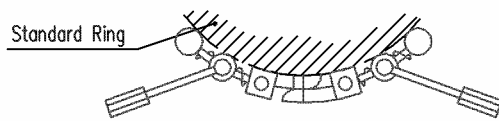

Fig. 2
1. 球带尺在使用前应先进行标定。将球带尺置于标准圈上，使各测量球均接触标准圈的两个垂直面，在手柄上施加 5kg 左右的力，此时右测量头上的刻线应对准左测量头上的右刻线（图 2）。如有偏差，则调整测量头上的调整螺钉来满足上述要求。 Ball tape shall be calibrated before putting it into normal usage. Put “ball tape” onto standard ring and keep all the balls touching the two vertical sides of standard ring, after that, user applies about 5 kg forces onto the handles, and now the “Single-line” on the right measure-block shall be overlaid with double-line on the left measure-block (See Fig. 2). If there is any error, adjust the “adjust bolt” on the measure-block to meet the requirement as what mentioned above.